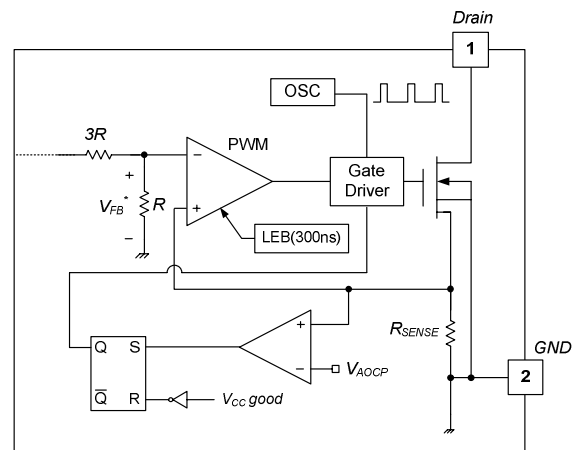

Figure 21. Abnormal Over-Current Protection
4.2 Abnormal Over-Current Protection (AOCP): When the secondary rectifier diodes or the transformer pins are shorted, a steep current with extremely high di/dt can flow through the SenseFET during the minimum turn-on time. Even though the FSGM0565R has overload protection, it is not enough to protect the FSGM0565R in that abnormal case; since severe current stress is imposed on the SenseFET until OLP is triggered. The FSGM0565R internal AOCP circuit is shown in Figure 21. When the gate turn-on signal is applied to the power SenseFET, the AOCP block is enabled and monitors the current through the sensing resistor. The voltage across the resistor is compared with a preset AOCP level. If the sensing resistor voltage is greater than the AOCP level, the set signal is applied to the S-R latch, resulting in the shutdown of the SMPS.